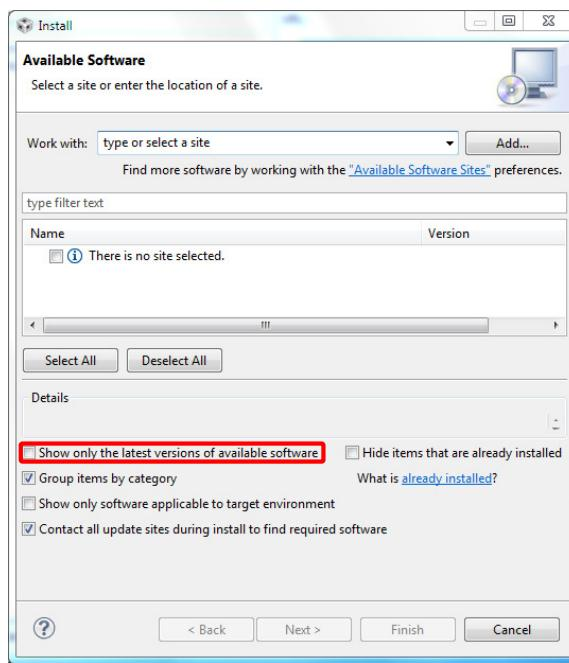

Figure 5.2: **Show only...** check box
2. Clear the check box **Show only the latest versions of available software** in the **Install** dialog (see Figure 5.2 on the next page).